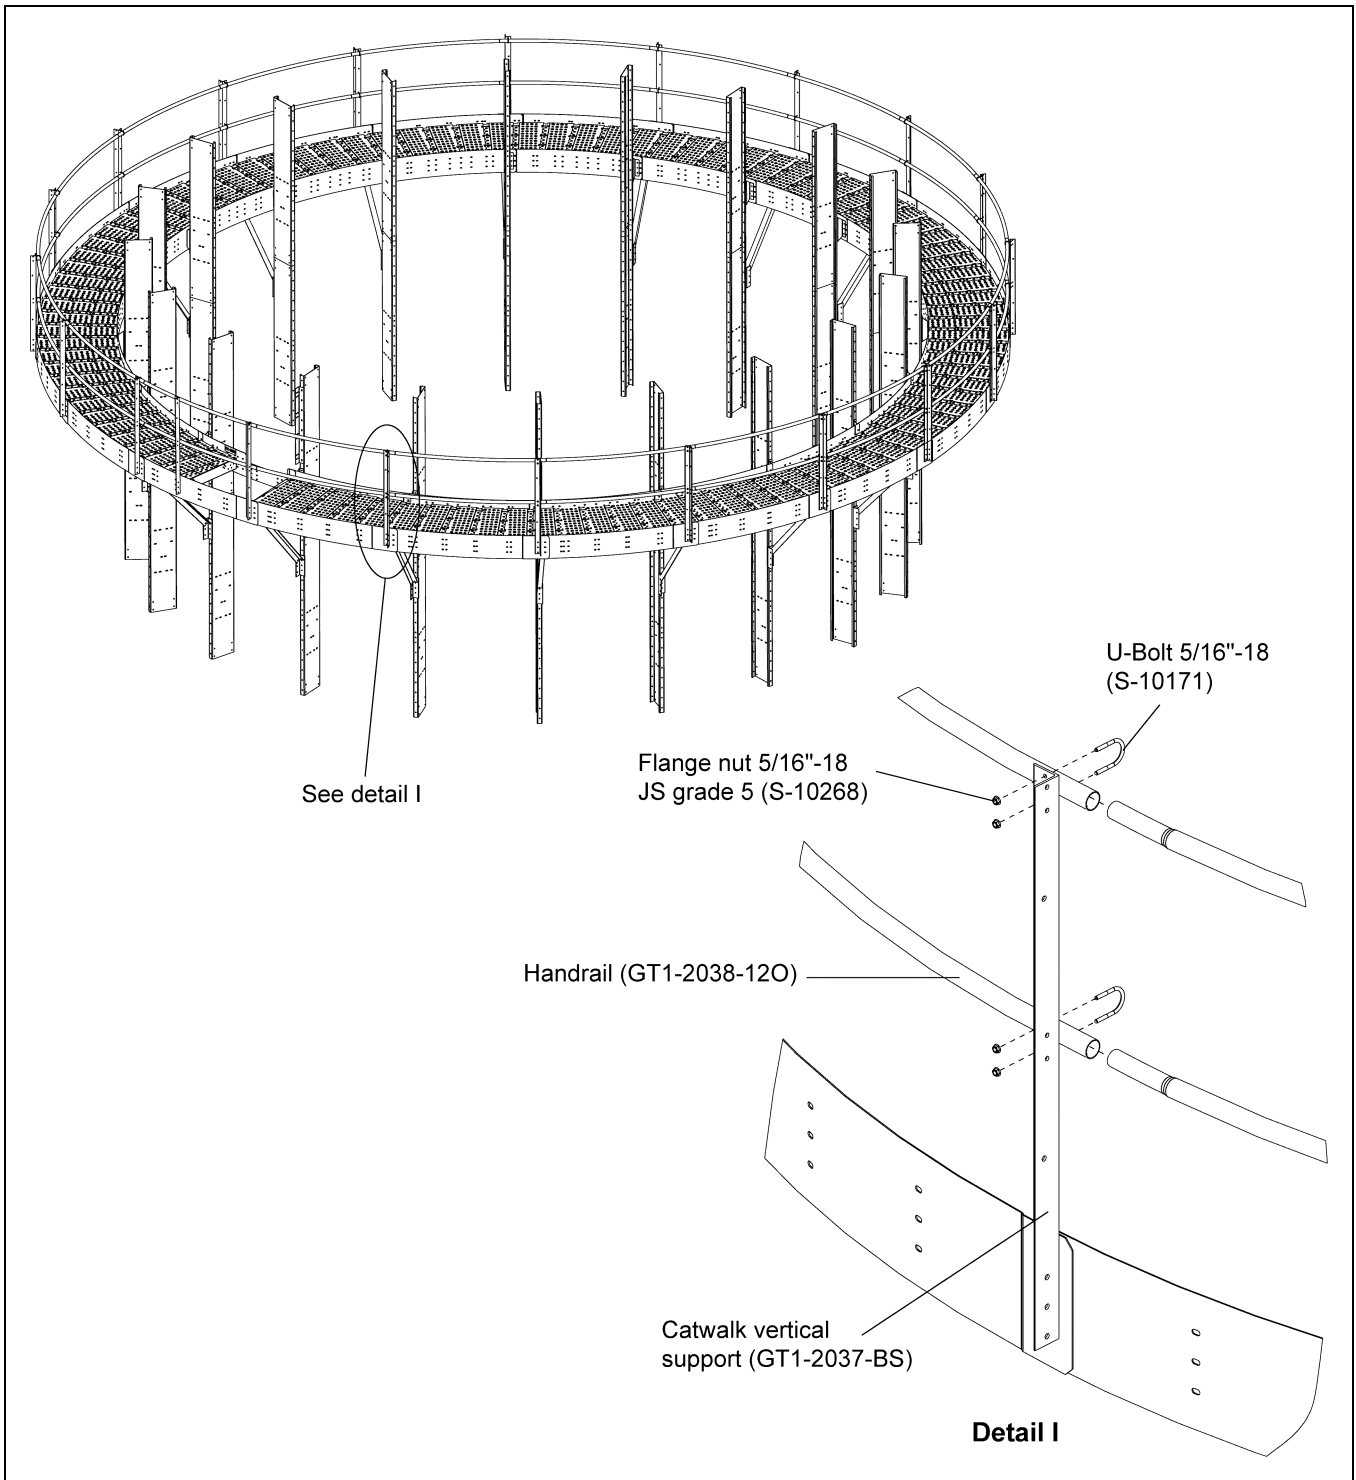

Figure 4U
1. Install the handrail (GT1-2038-300) to the catwalk vertical support (GT1-2037-BS) using 5/16"-18 ZN U-bolts (S-10171) and 5/16"-18 JS grade 5 nuts (S-10268) to tighten the handrail with vertical post. (See Figure 4U.) (See Page 27.)